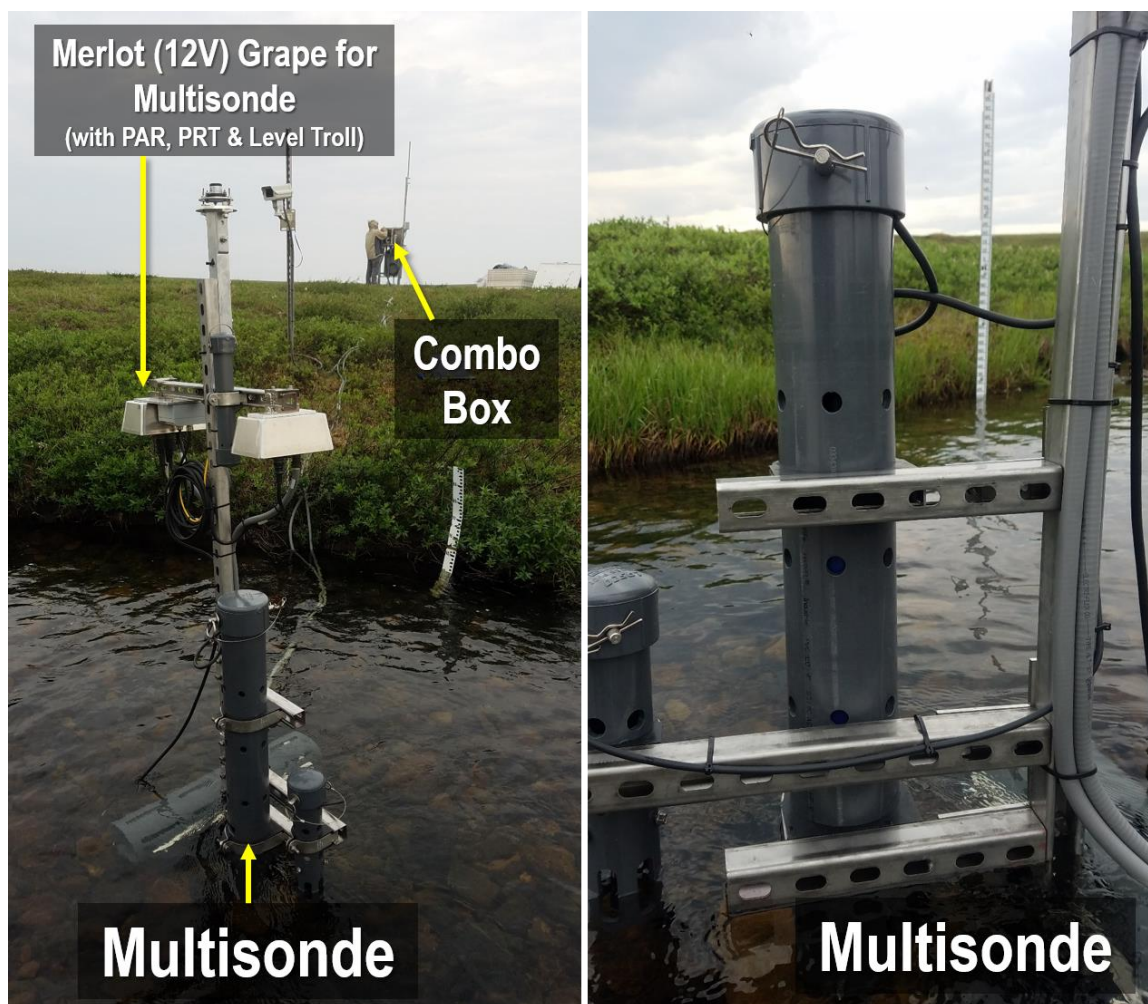

Figure 12. Multisonde on an Anchor with Subsystem Components at Wadeable Stream Location
Level TROLL. For downstream/S2 locations, the Multisonde is co-located with the same sensors as S1, but with an additional sensor probe to measure for fDOM and a SUNA (Figure 12). It primarily shares a space with the PRT in a fixed PVC tube, which mounts from a Unistrut anchor (image to the right in Figure 12).
The sensor subsystems are with the sensors on an anchor or nearby onshore (for BLUE they suspend from the bridge as shown in Figure 13 above). The Multisonde shares a Merlot (12V) Grape with the Level TROLL, PAR and PRT and connects to a splitter (see Figure 12 and Figure 14). At high-water sites, the sensor Grape mounts to an arbor on or above the bank onshore as a stand-alone installation or on a device post with a Power and/or Comm/Combo box (Figure 14). The Grape supplies power to the Multisonde and transmits its data to the Location Controller (LC) in the Aquatic Portal. Reference AD [05], AD [06] and AD [10] for more information on AIS stream mechanical and electrical infrastructure.